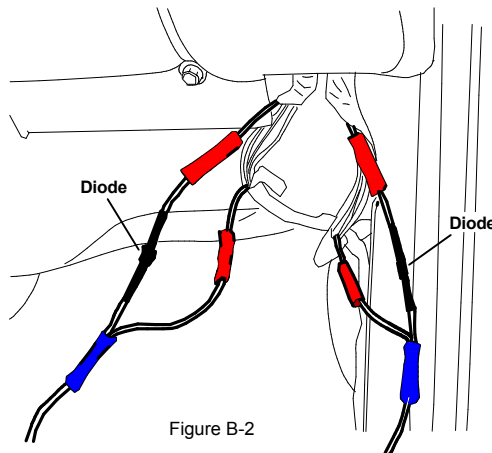

Figure B-2
4. Cut each wire and install the Single Diode Harnesses as oriented in Figure B-2. Make certain that the leg with the diode is towards the top.